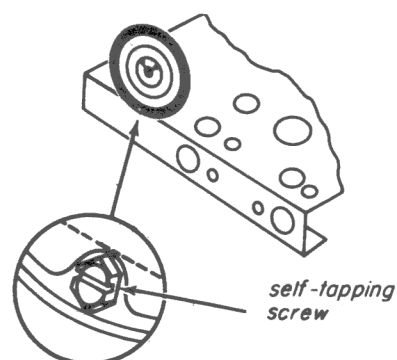

Fig. 24-4
Step 10. Fasten the rim of the speaker to the chassis using a 8 x 3/8-inch self-tapping screw, as shown in Fig. 24-4. Adjust the bracket so that speaker and bracket are vertical, and tighten all screws.